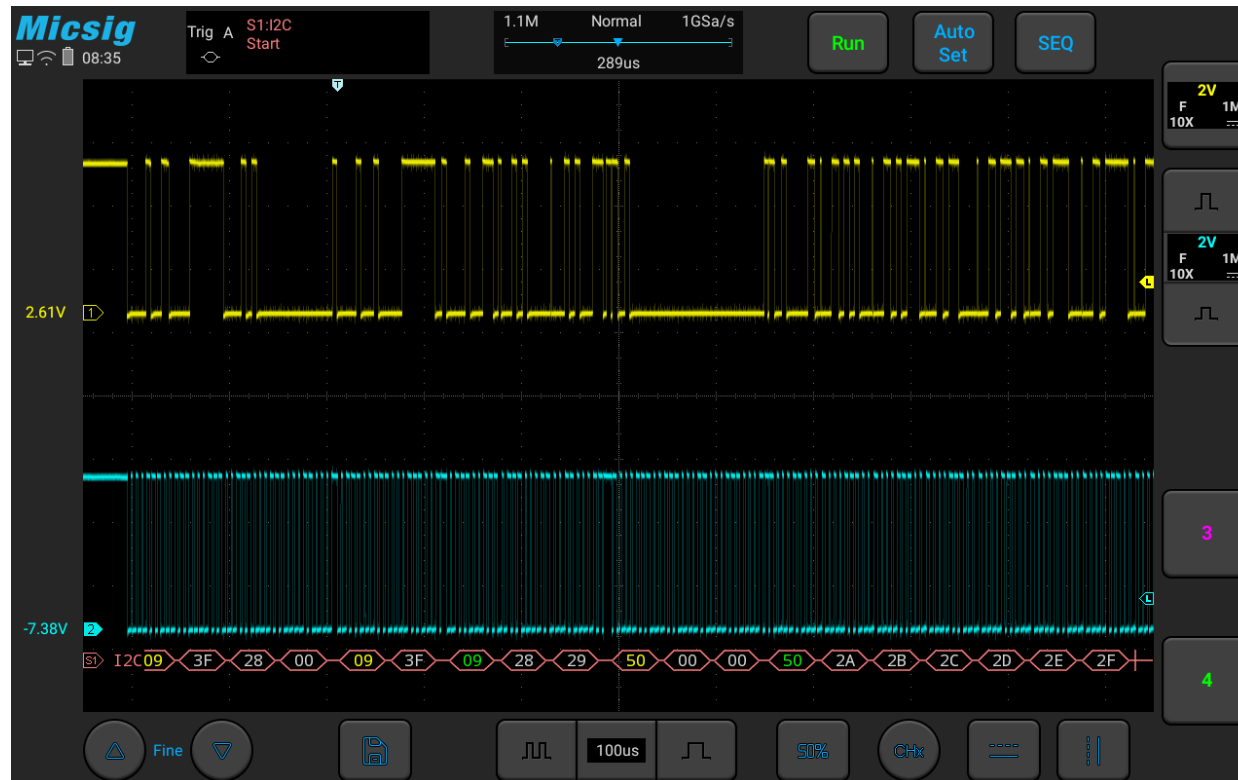

Figure 11-24 I2C Graphic Interface
- (1) Tap S1 to open the decode channel, and click S1 again to open the bus configuration menu;
- (2) Select the bus type as “I2C”, open the bus setting menu, and select the clock SCL as Ch2 channel;
- (3) Open the trigger mode configuration menu and click “Start Condition” on the touch screen.
- (4) Set the threshold level of two channels according to signal amplitude; I2C trigger graphic interface is shown in Figure 11-24: